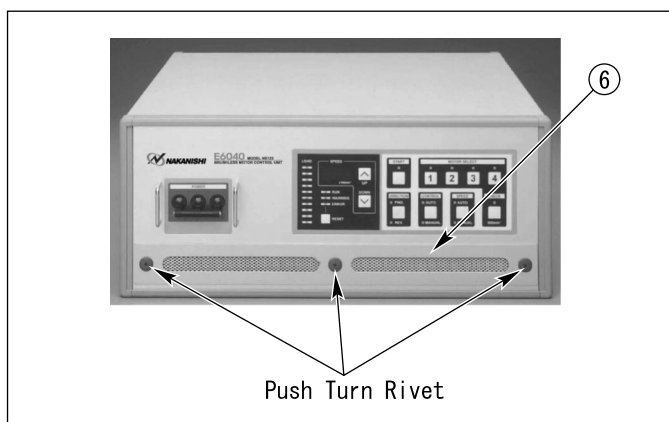

Fig 20
- 1) Remove the Front Panel Filter (6) by removing the 3 push turn rivets. (Fig 20)